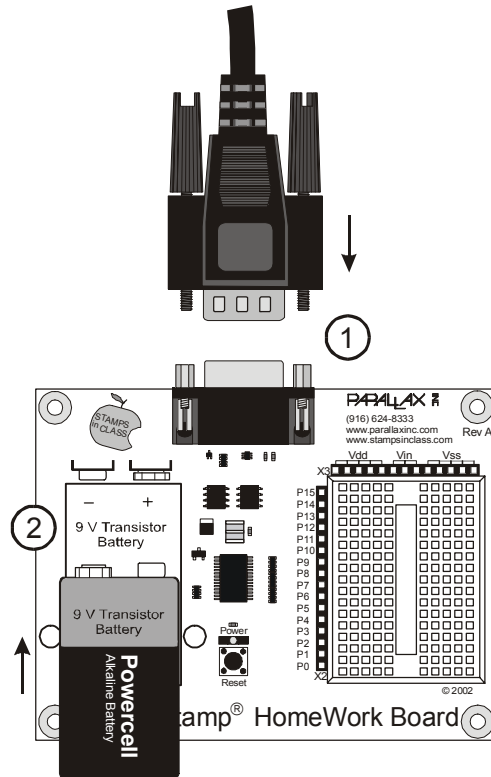

Figure 1-29
- ✓ Connect the serial cable to the HomeWork Board (Figure 1-29, step-1).